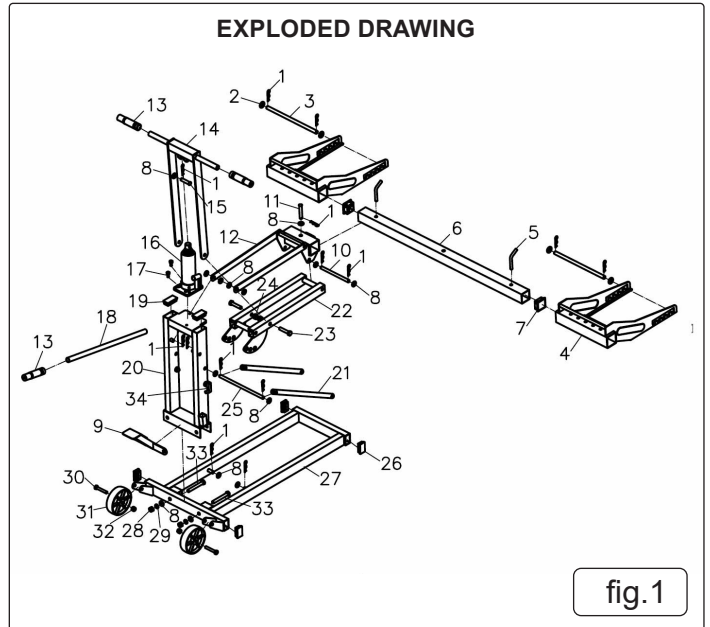
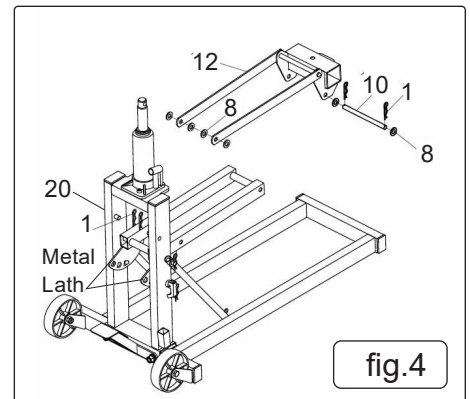
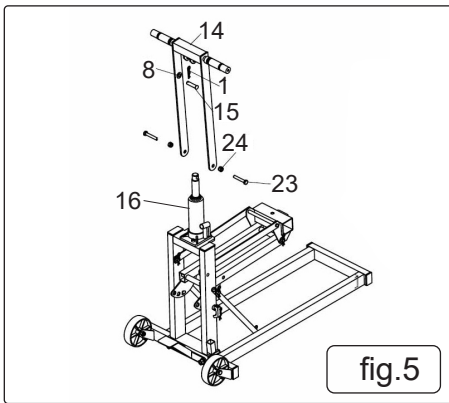
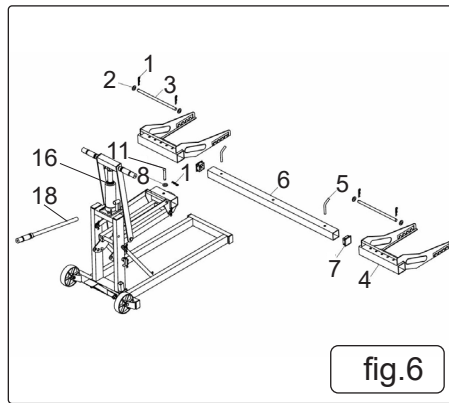

fig.1
fig.4
fig.5
fig.6
- 4.1.5. Move the two Safety Lock Lever (34) to the unlocked position, keeping the Lift Rotating Frame level. Place the rotating Frame (Upper) (12) onto the Lift Rotating Frame (22) as shown. Align the holes. Slide Pin (10) through Lift Rotating Frame (22) and follow Rotating Frame (Upper) (12). Place Flat Washer (8) over each end of the Pin (10). Secure each end of the Pin (10) with Small R-Clip (1). (See fig.1).
- 4.1.7. Place Jack Lifting Frame (14) onto the Bottle Jack (16). (See fig 5). Slide Pin (15) through Jack Lifting Frame (14) and Bottle Jack (16). (See fig.5). Place Flat Washer (8) over each end of the Pin (10). (See fig.4). Secure each end of the Pin (10) with Foot Pedal (9). (See fig.1).
- 4.1.8. Attach the Lift Rotating Frame (22) to Jack Lifting Frame (14) to Lift Rotating Frame (22). (As shown in fig.4). Secure in place using Hex Head Bolt (23) and Nyloc Nut (24). (See fig.5).
- 4.1.9. Insert Extension Beam (6) fig.6 through the bracket on the Follow Rotating Frame (Upper) (12). (See fig.1). Insert Extension Beam Pin (11) through center of bracket. (See fig.1). Secure the Extension Beam Pin (11) with Foot Pedal (9). (See fig.1).
- 4.1.10. Slide one Wheel Bracket Fork (4) over each end of the Extension beam (6). Insert Locking Pin (Angled) (5) to secure them in place. (See fig.6).
- 4.1.11. Insert the Handle for Bottle jack (18) into the Bottle Jack (16). (See fig.6).